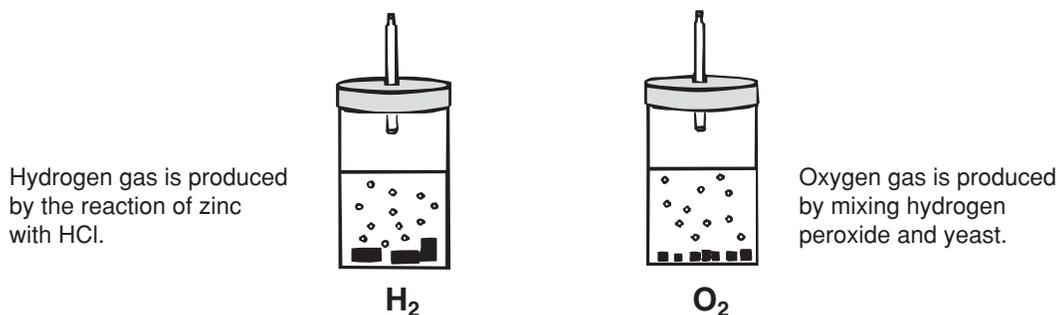

Figure 2. Diagram showing the two gas generating vials.
2. Snap the lid onto the vial and set aside. This will serve as the hydrogen gas generator and should be labeled H2 (see Figure 2).
4. Add about 10 grains of yeast to the bottle containing hydrogen peroxide and then replace the cap to the vial. This vial will serve as the oxygen generator and should be labeled O2 (see Figure 2).